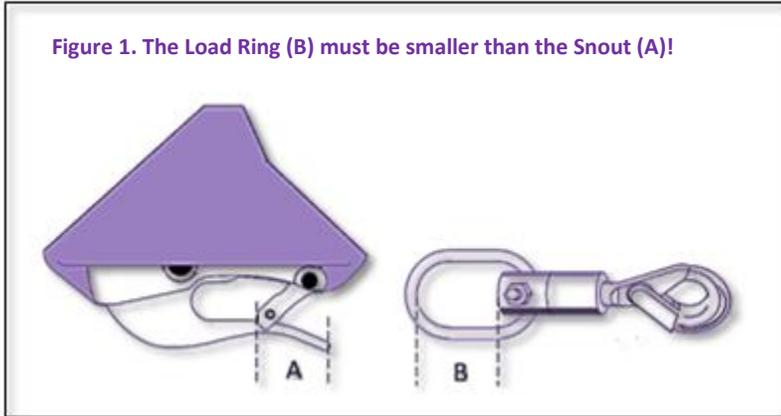

Figure 1. The Load Ring (B) must be smaller than the Snout (A)!
seems to be a relatively common practice. Using properly sized swivel rings is the only way to remove the possibility of an uncommanded release. The maximum interior length of the ring on the swivel (B) must be less than the length of the cargo hook's snout (A) as shown in Figure 1 above. Keep in mind that standard helicopter kit swivels may not be suitable for all uses, especially when it comes to a remote hook that uses a keeper rather than a keeperless cargo hook. Inspect the equipment from the aircraft cargo hook all the way down to the load.